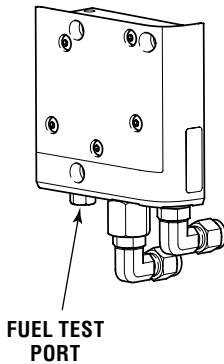

Figure 4-9. Fuel test port.
- Thread in the Pressure Gauge PK0067 and torque to 25 in-lbs  $\pm 3$  in-lbs (2.8 Nm  $\pm 0.3$  Nm) as shown in figure 4-9.